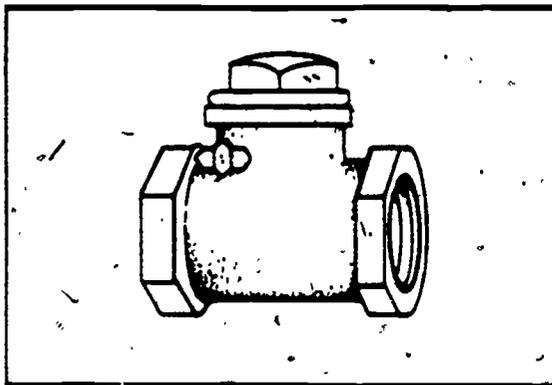

Figure 1-40. Check valve
**Check valves.** Check valves, one of which is shown in figure 1-40, are used when it is necessary to control the flow of gases or fluids in one direction only. The flow in the proper direction keeps the valves open, and reversal of flow closes them automatically. There are two basic types of check valves: swing check valves and lift check valves. Both types have several variations that make them suitable for specific plumbing installations. They are used on hot water tanks to prevent hot water from backing up in the cold water lines, or anywhere on a plumbing system where free flow is needed in one direction only. Check valves are marked with an arrow which indicates the inlet opening or direction of flow for installation purposes.